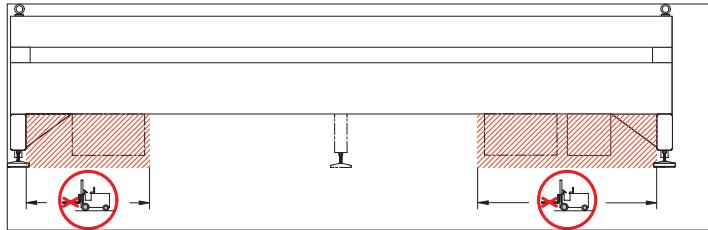

Fig. 9: Prohibited areas for fork-lift trucks
**Do not lift the machine at the places indicated (*Fig. 9*) with a fork-lift truck – the forks could damage the control cabinet(s).**
Do not lift the machine at the places indicated (*Fig. 9*) with a forklift truck – the forks could damage the control cabinet(s).
You are recommended to lift the machine with a fork-lift truck when installing the casters. In doing so, ensure compliance with the prohibited areas for fork-lift trucks (*Fig. 9*). No liability is accepted for physical injury or damage to property arising from the use of bolts other than those supplied by ZSK Stickmaschinen GmbH.